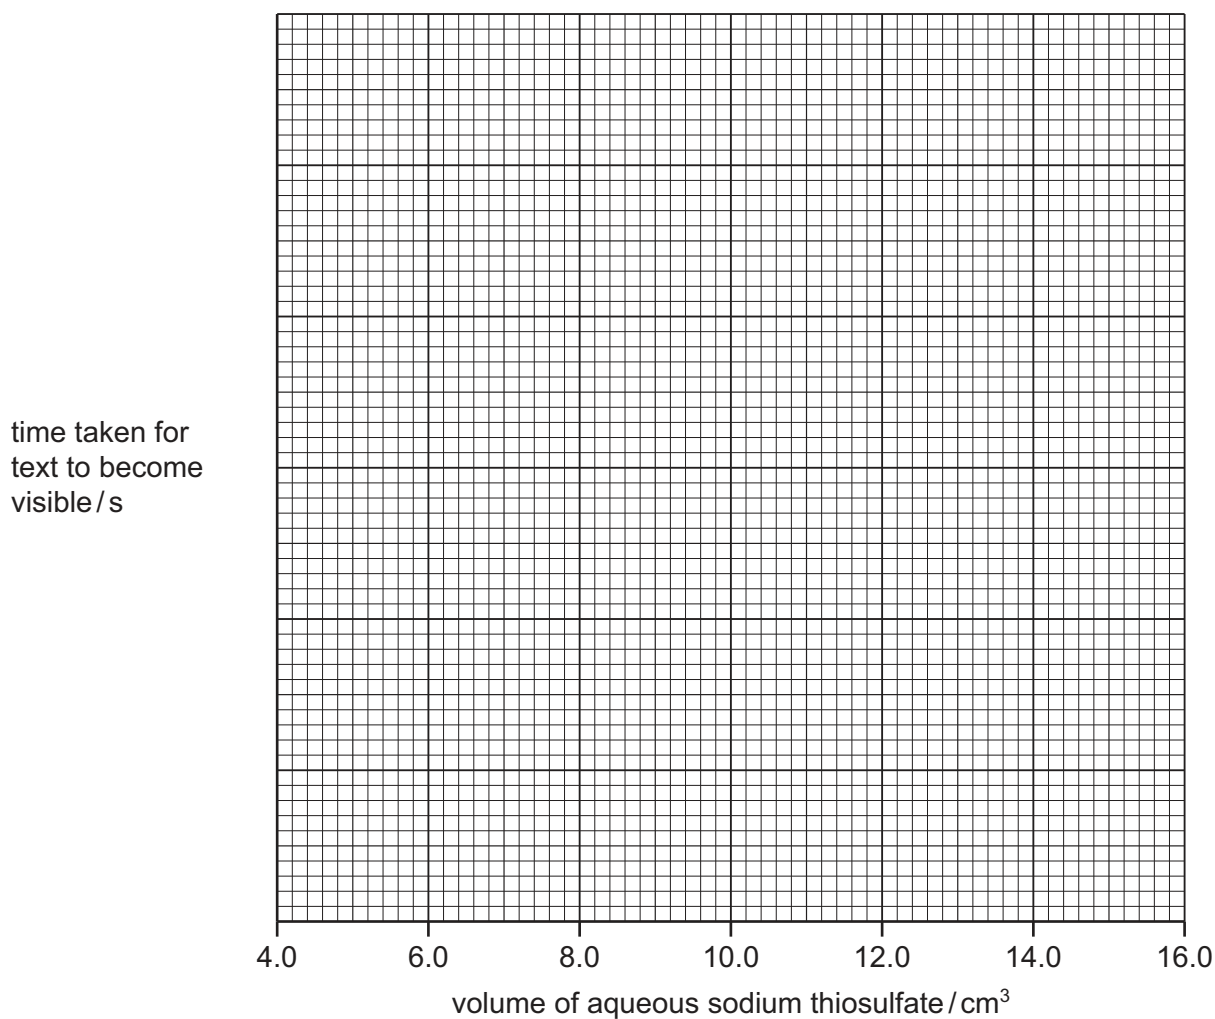

Fig. 1.2
- (b) Write a suitable scale on the y-axis and plot your results from Experiments 1 to 5 on Fig. 1.2. Draw a smooth curve of best fit.
(e) Use your graph in Fig. 1.2 to predict the time taken for the text to become visible if the volume of aqueous sodium thiosulfate is 12.5 cm^3 .
Show your working on Fig. 1.2.